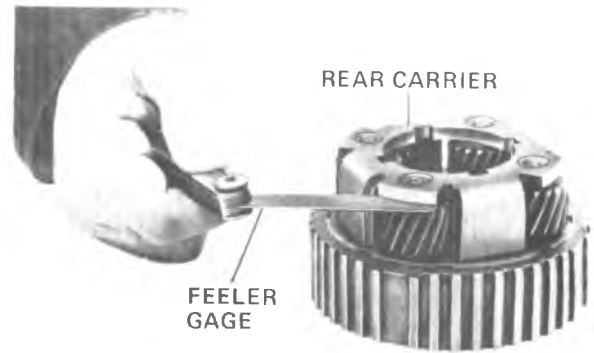

Figure 7A1-78 Checking Rear Carrier Pinion End Play
2. Install rollers that may have come out of roller clutch cage, by compressing the energizing spring with forefinger and inserting roller from outer edge. (Figure 7A1-80).
3. Install roller clutch assembly into roller clutch cam. (Figure 7A1-81).